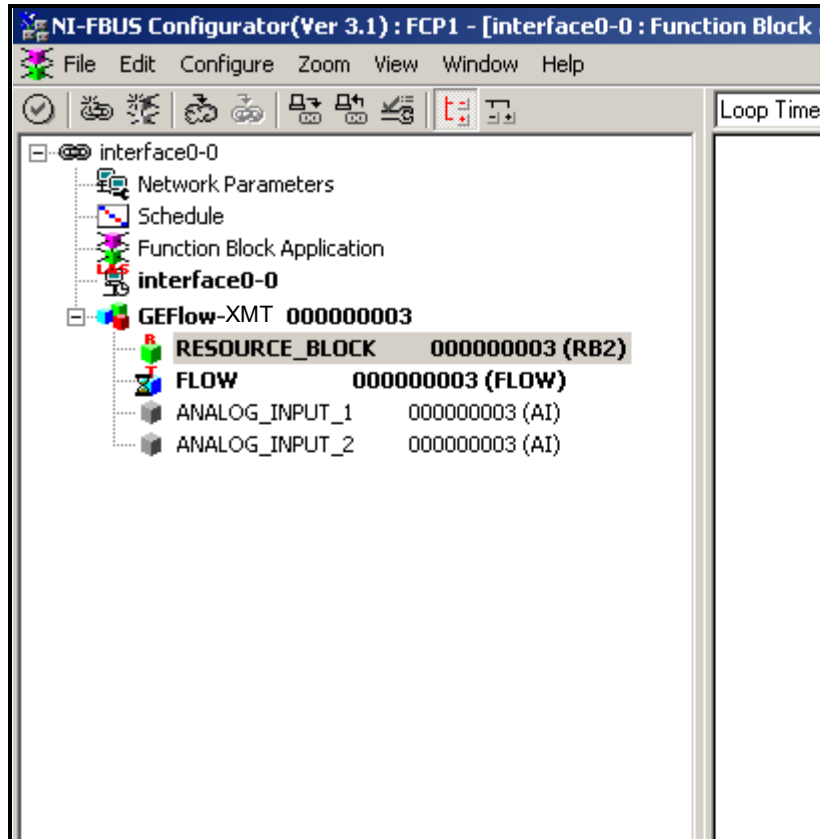

Figure 58: Configuration Utility Setup Example
Figure 58 shows the Configuration Utility with a flowmeter on the network (Panametrics Flow-XMT).
1. Double click on the AI block for which you wish to set the units (ANALOG\_INPUT\_1 or ANALOG\_INPUT\_2 in the tree under Panametric Flow-XMT; see Figure 58 on page 78).
1. Double click on the FLOW transducer block (in the tree under GEFLOW-XMT; see Figure 58 on page 78).